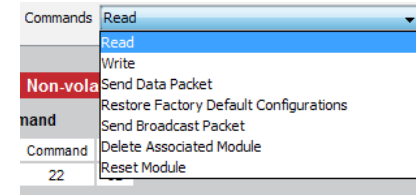

Figure 16: The Master Development System Software Command Set Tab Commands Menu
3. The Commands drop-down menu shows all of the commands that are available for the active module (Figure 16). Selecting one of the commands from this menu automatically fills in the Command box. The values can be adjusted by typing in the box.